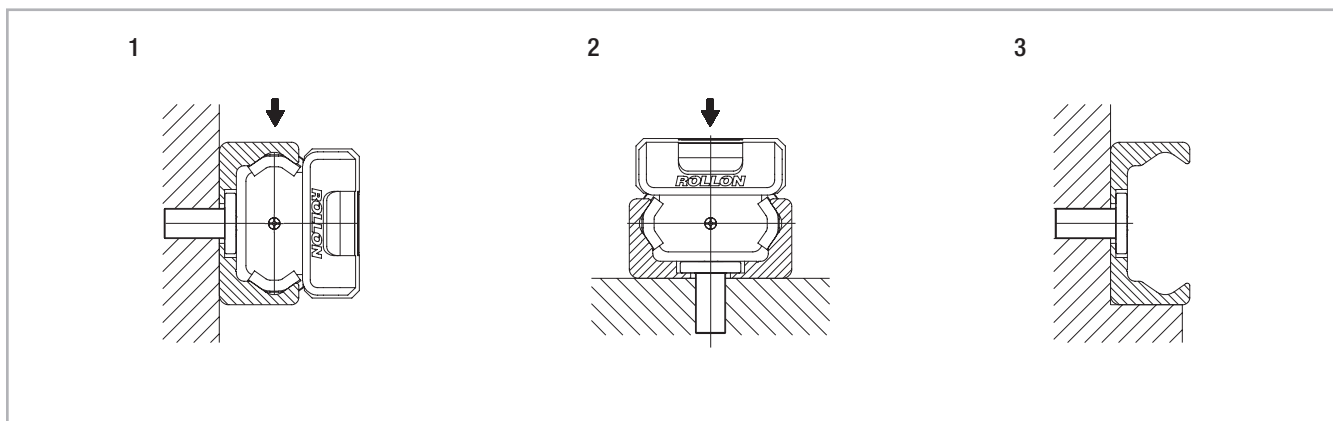

Fig. 155
The T- and K-rails can be installed in two positions relative to the external force. For axial loading of the slider (fig. 155. pos. 2), the load capacity is reduced because of the decline in contact area caused by the change in position. Therefore, the rails should be installed in such a way that the load on the rollers acts in the radial direction (fig. 155, pos. 1). The number of fixing holes in the rail in combination with screws of property class 10.9 is dimensioned in accordance with the load capacity values. For critical applications with vibrations or higher demand for rigidity, a support of the rail (fig. 155, pos. 3) is advantageous.